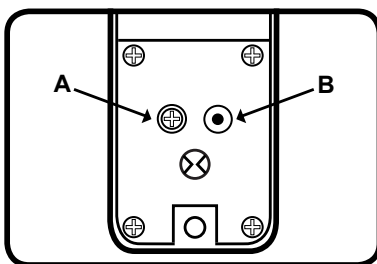

Fig.2
2. Reposition the blue coloured handing screw on the back of inside handle so it will rotate in the opposite direction as per **fig.2** above. From the outside of the gate the screw position will need to be position **A** if it is right hand hung or position **B** if it is left hand hung.